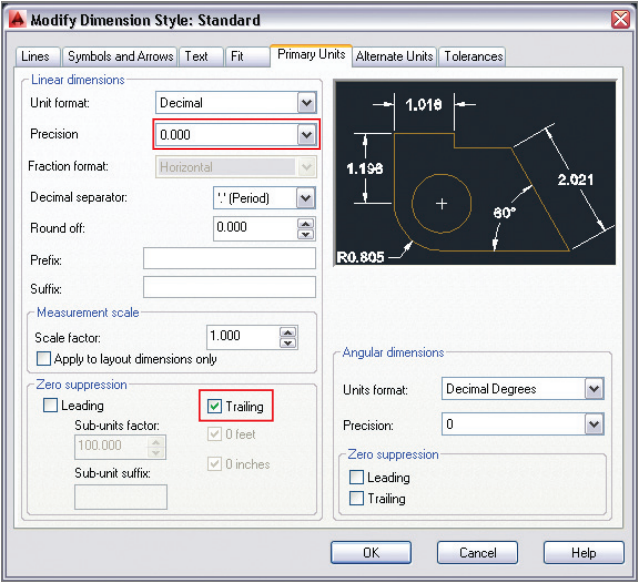

FIGURE 11.4 Configuring dimension style primary units
4. Select the Primary Units tab in the Modify Dimension Style: Standard dialog box. Set Precision to 0.000, and select Trailing in the Zero Suppression section (see Figure 11.4). If you are in a country that uses a comma instead of a period as a decimal separator, select “,” (Comma) in the Decimal Separator drop-down menu.